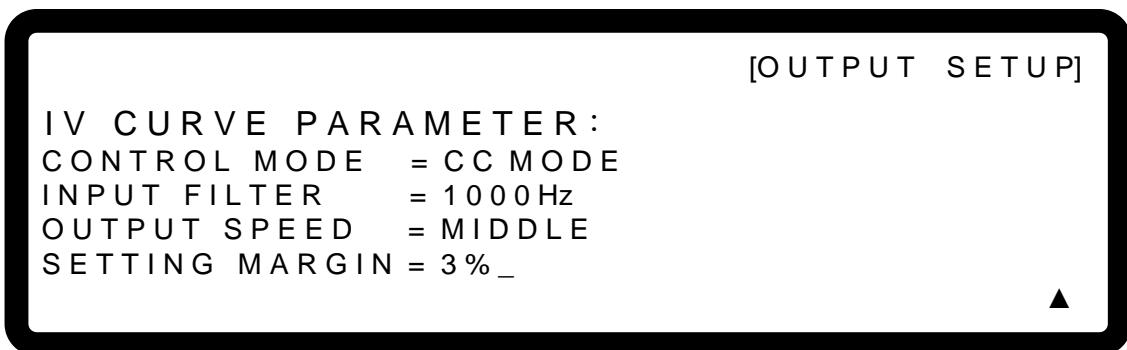

Figure 3-31
1. Use the “” keys to move the cursor to the column to be set as shown in Figure 3-31.